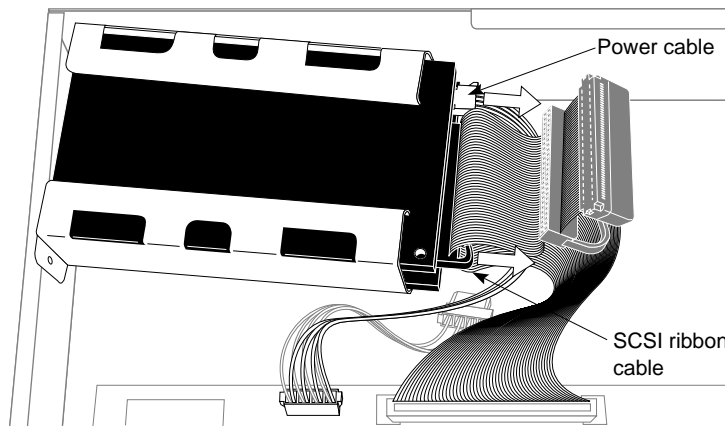

Figure 9-25 Disconnecting the Power and SCSI Cables From the System Disk Drive
- Disconnect the power cable connector from the system drive, as shown in Figure 9-25.